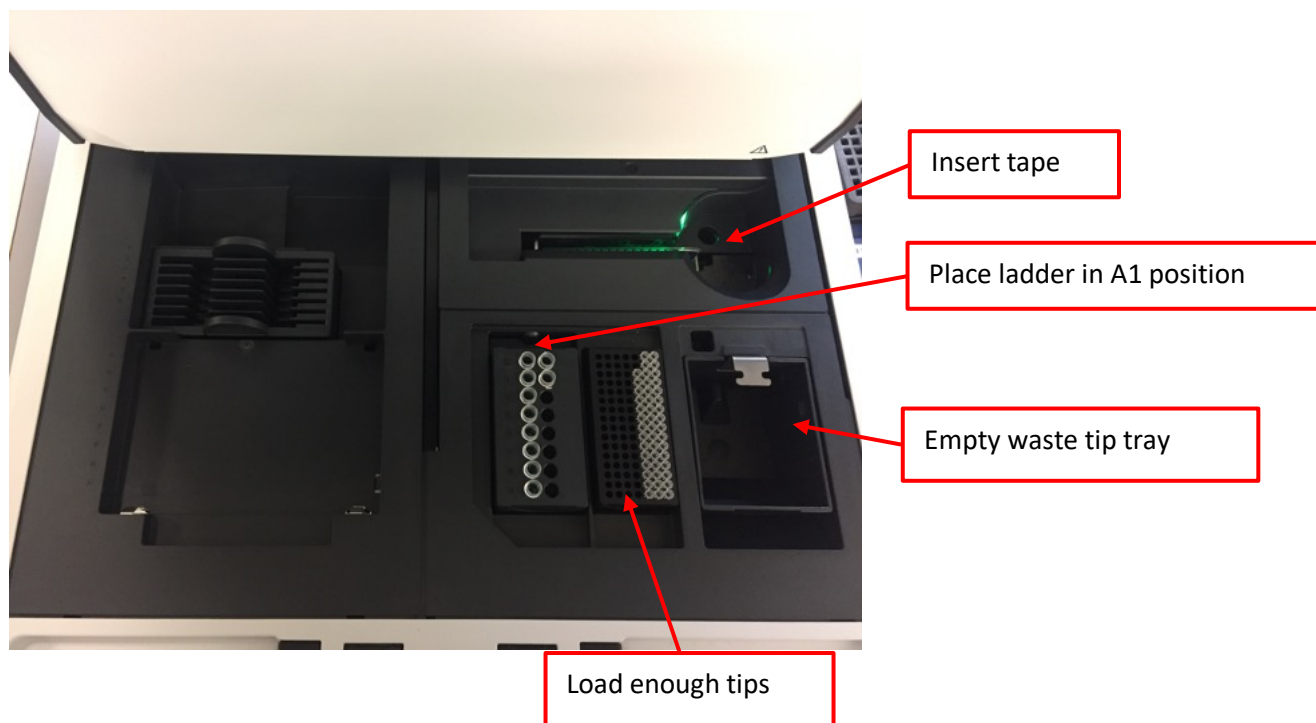
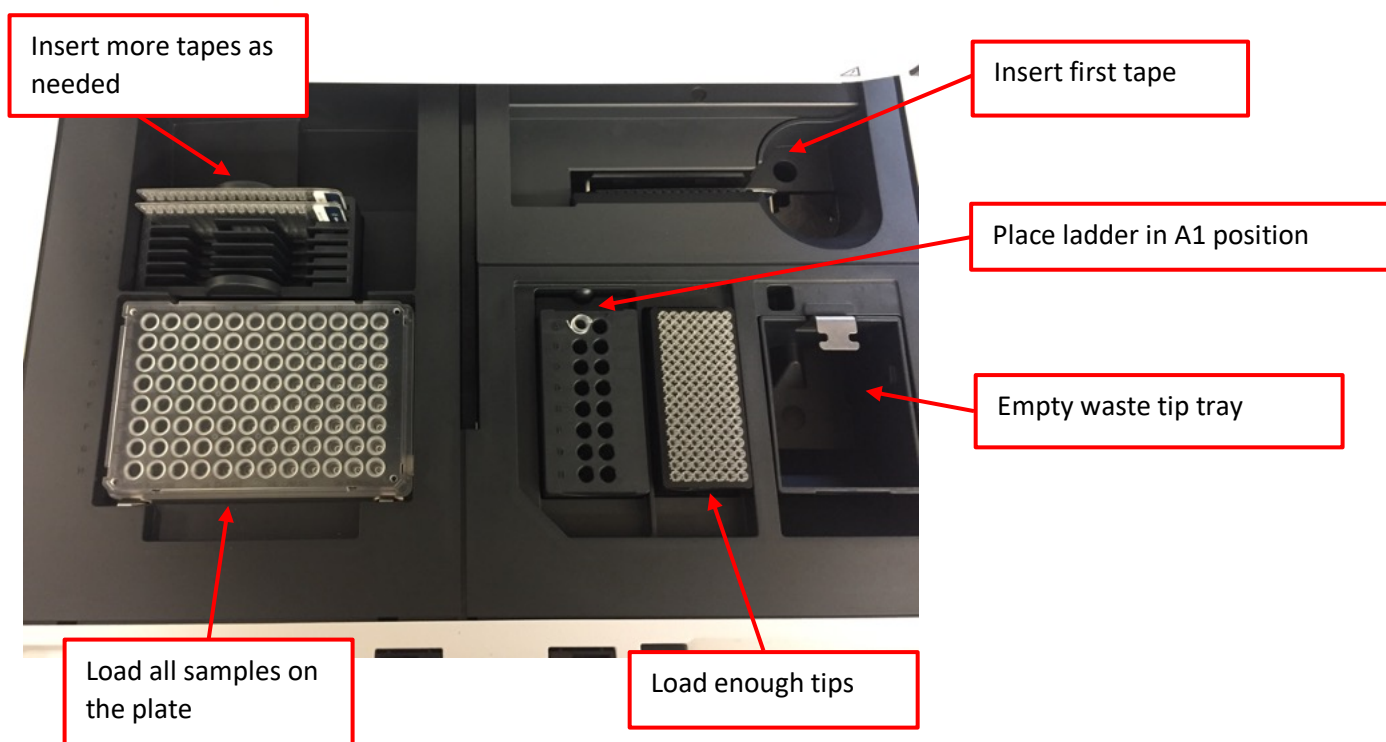

Figure 1: TapeStation deck layout for analyzing 1-15 samples using strip tubes and sample ladder
Figure 2: TapeStation deck layout for analyzing 16-96 samples using 96-well plate and sample ladder
1. When using the Agilent 4200 TapeStation instrument, it is optional to include a ladder sample or use an electronic ladder setting. If sample ladder is used, it needs to be set up at the tube strip location A1 on the TapeStation deck. (See Figure 1 and Figure 2 for clarity)
- a. Load the Screen Tape into the tape reader slot in the top right section. (See figure 1 and figure 2 for clarity) Each tape can accommodate 16 samples.